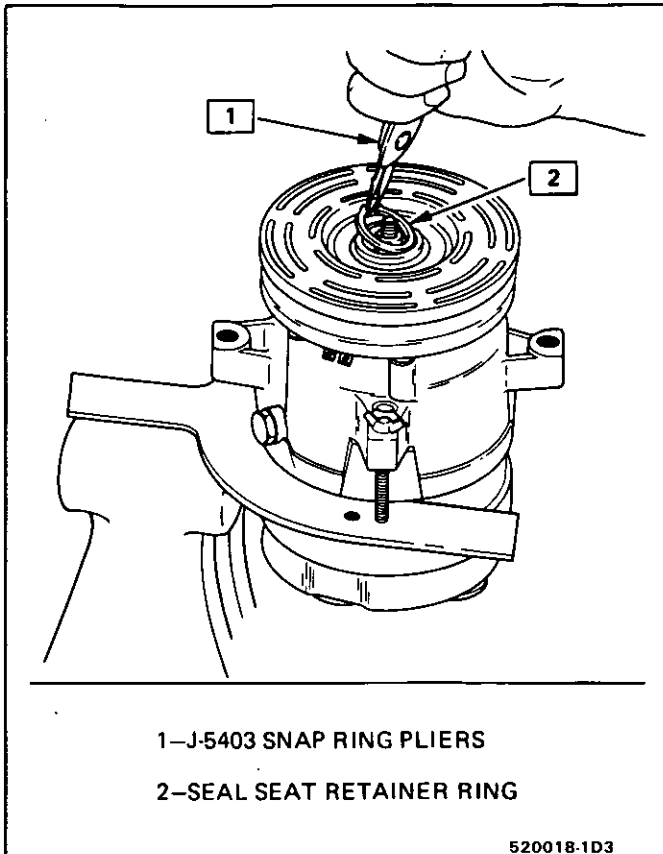

Fig. 24 Removing or Installing Shaft Seal Seat Retaining Ring
4. Remove the shaft seal retainer ring, using snap ring pliers J-5403 (Fig. 24).
4. Install the new seal retainer ring with its flat side against the seal, using snap-ring pliers J-5403 (Fig. 24). Use the sleeve from seal